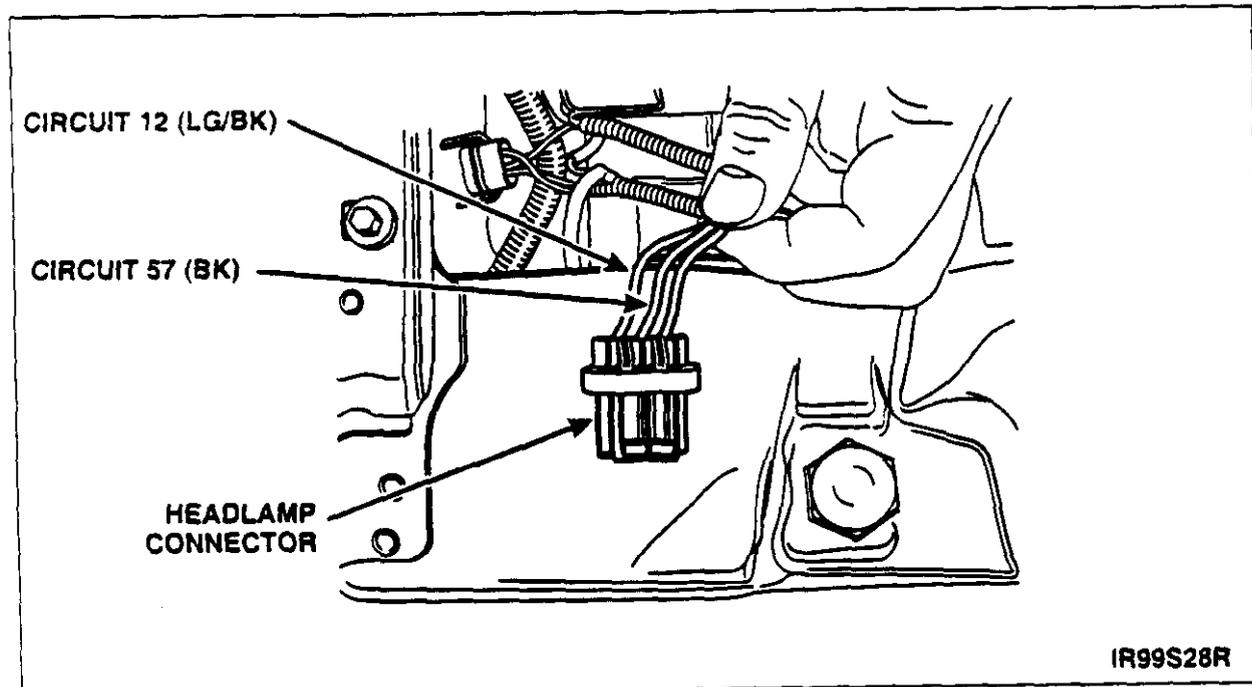

FIGURE 18
26. NOTE: The **new** relay jumper harness has two circuit 57 (BK) wires, one with a terminal end installed and one without.
Remove the circuit 57 (BK) wire from the RH headlamp connector, then cut the terminal off the end of the wire. Then, in its place, install the circuit 57 (BK) wire with the terminal end, from the **new** relay jumper harness. See Figure 18.
Remove the circuit 12 (LG/BK) wire from the RH headlamp connector, then cut the terminal off the end of the wire. Then, in its place, install the circuit 12 (LG/BK) wire with the terminal end, from the **new** relay jumper harness. See Figure 18.